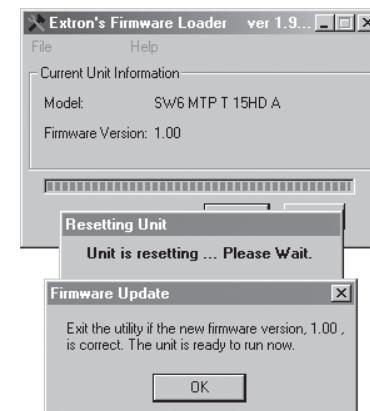

Figure 4-4 — Firmware Loader status indicator bar, switcher reset, and firmware update
5. Click the *Open* button. A status bar, which shows the progress of the upload, appears in the Firmware Loader window (figure 4-4). The firmware upload to the switcher may take several minutes.
Once the status bar has progressed fully from left to right across the indicator window, the firmware loader utility automatically resets the switcher (figure 4-4).